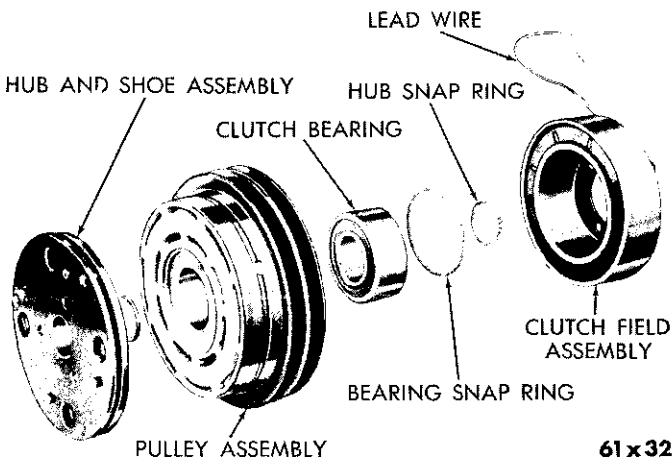

Fig. 8—Magnetic Clutch, Stationary Field Type
(3) Install the compressor suction screen in the EPR Valve suction line fitting.
(4) Install the suction line fitting gasket, spring, fitting and attaching bolts.
(5) Install the compressor. Make all connections, evacuate and recharge the system as described in the 1960 Chrysler and Imperial Service Manual.
**SERVICING THE MAGNETIC CLUTCH (Fig. 8)**